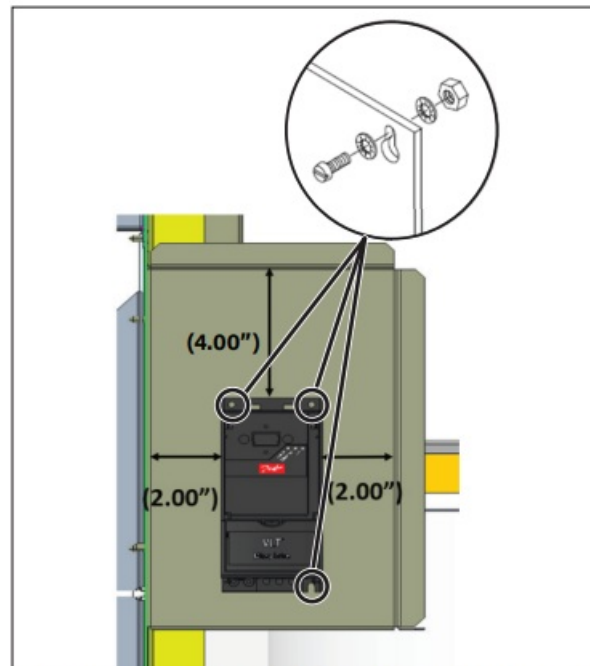

Figure 3: Placement of VFD inside the shield/ sheet metal bracket
3. Mount the VFD to the shield/ sheet metal bracket. See Figure 3.